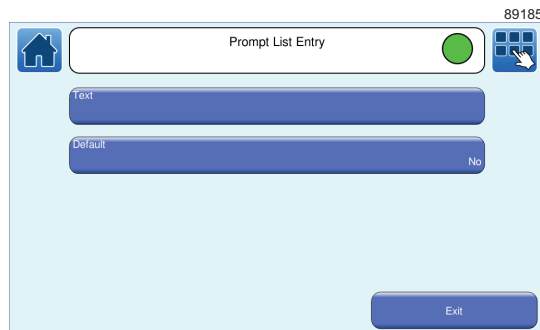

Figure 81. Prompt List Entry screen
- 7 Touch the **Prompt With** button to display the **Prompted Value** screen (see Figure 81 on page 76) where you can select which text appears in the prompted field.